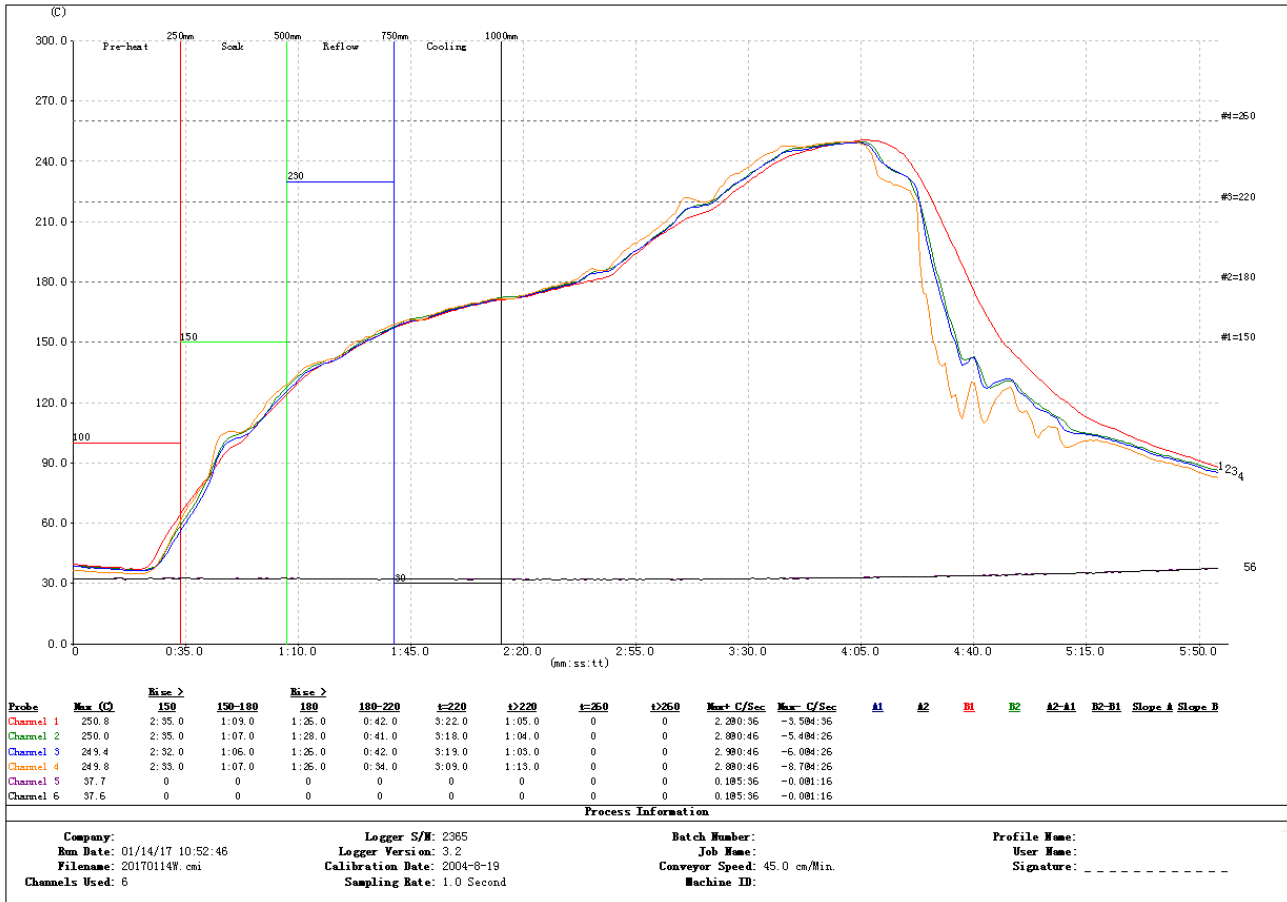

Figure 10 Temperature Curve of Secondary Reflow
- SMT patch should on the basis of reflow profile diagram, maximum temperature 245°C , reflow profile diagram is shown in figure 10;